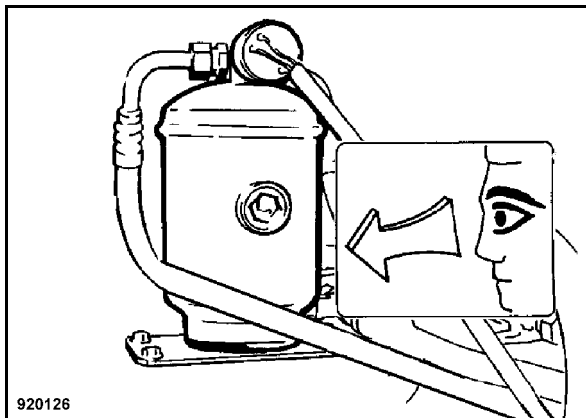

Fig. 151
- Check the drier/collector unit (Fig. 151) for mechanical damage or rust.